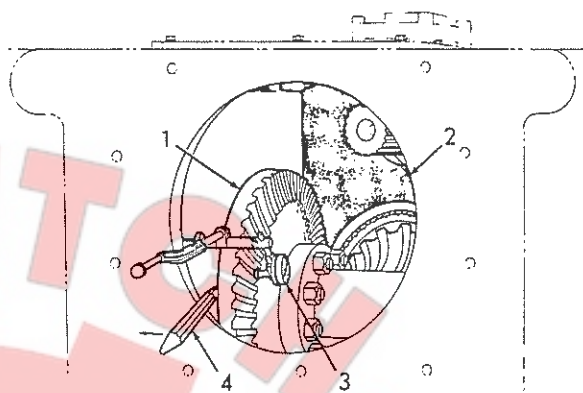

Fig. 10 Checking for Bevel Gear End-Play (T-70854)
1. Before installing transmission, bevel gear shaft bearings must be checked for end-play. As it is impractical to check bearing preload as described in "BEVEL GEAR AND SHAFT" (steering clutches removed), refer to Fig. 10 and check bearing end-play by positioning a dial indicator through power take-off access hole (if tractor has rear mounted equipment, remove bevel gear